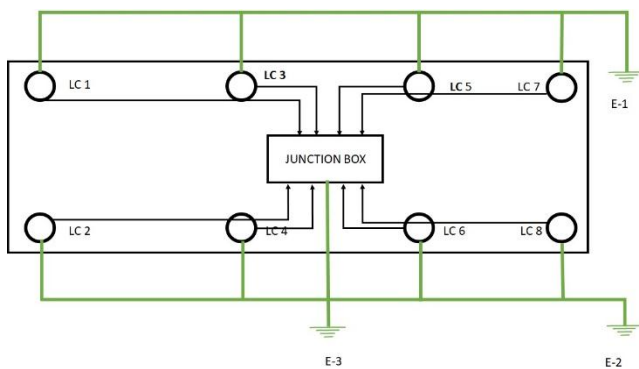

FIG.4: WEIGHBRIDGE HAVING EIGHT LOAD CELL
- Each load cell having five terminals having 2 for incoming and two for outgoing and other one remaining terminal is connected to earth. Load cells 1, 3, 5, 7 and 2, 4, 6, 8 are earthed separately in two earth connection as shown in fig 4.